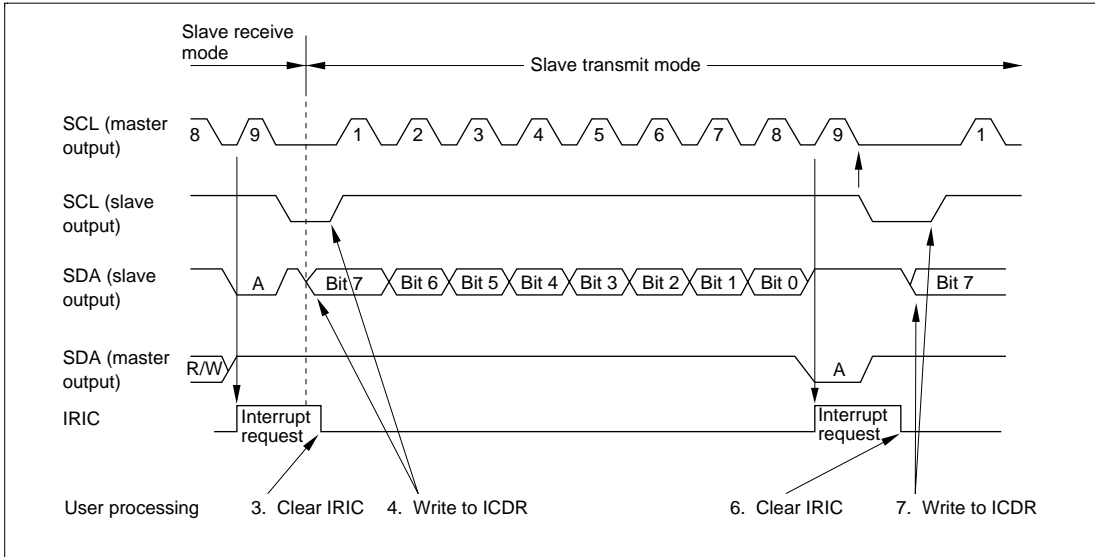

Figure 13.8 Timing in Slave Transmit Mode
4. Write data in ICDR. The slave device outputs the written data serially in step with the clock output by the master device, with the timing shown in figure 13.8.